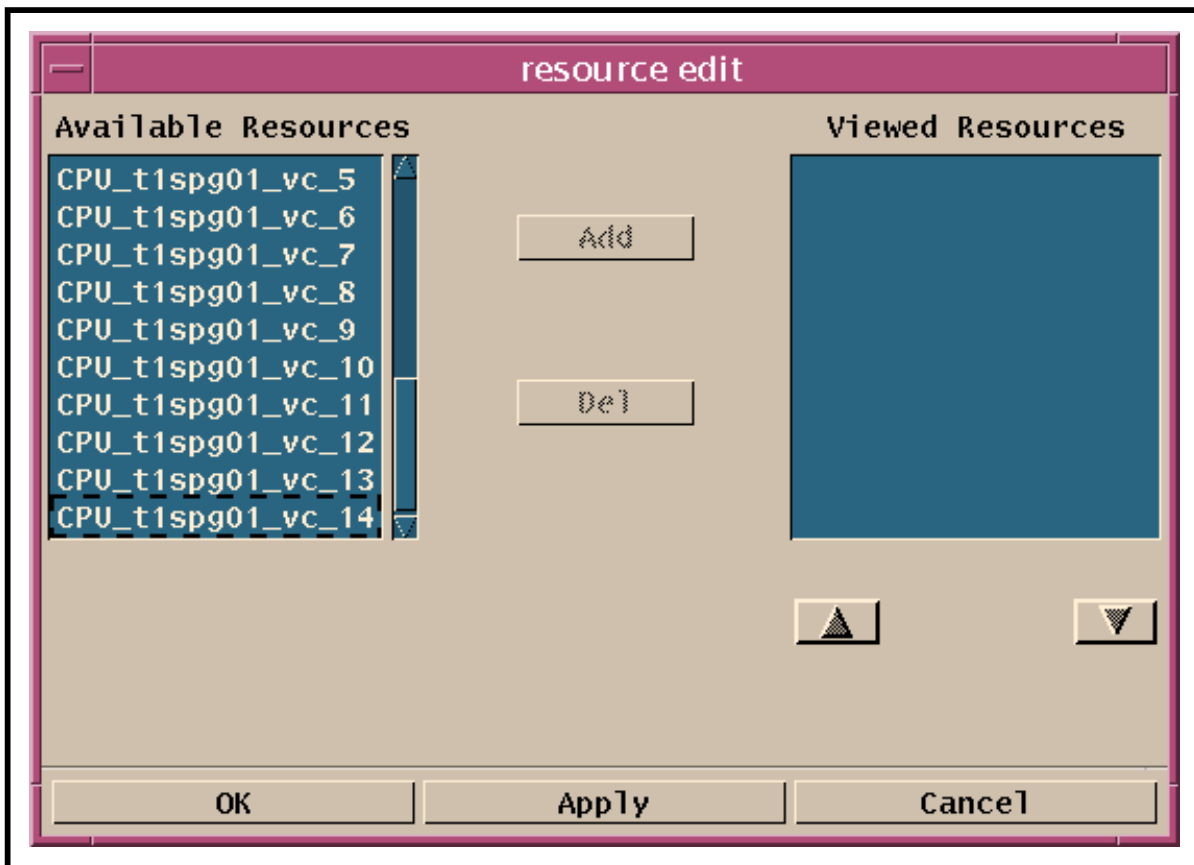

Figure 50. Resource Edit Window
- The **Resource edit** window (Figure 50) is displayed.